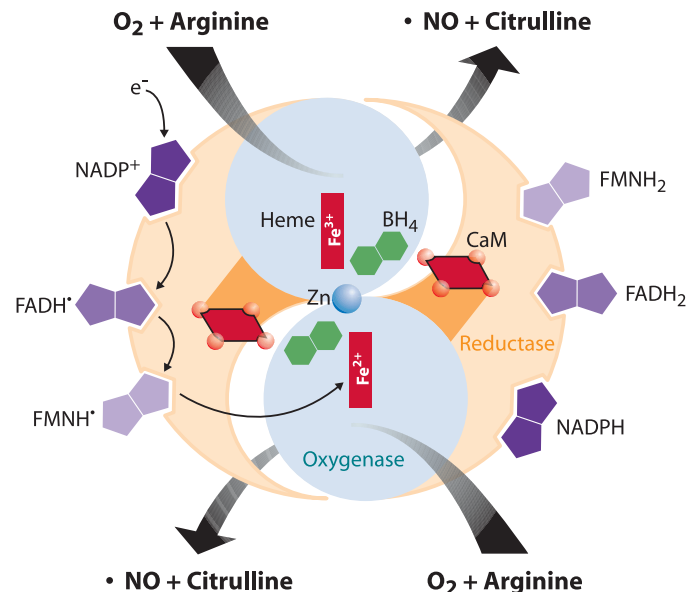

Figure 1. Nitric oxide synthesis
Nitric Oxide (NO) is synthesized in biological systems by the enzyme Nitric Oxide Synthase (NOS). NOS is a remarkably complex enzyme which acts on molecular oxygen, arginine, and NADPH to produce NO, citrulline, and NADP⁺. This process requires five additional cofactors (FMN, FAD, Heme, calmodulin, and tetrahydrobiopterin) and two divalent cations (calcium and heme iron; see Figure 1). Three distinct isoforms of NOS have been identified, as detailed in Figure 2, see page 6.